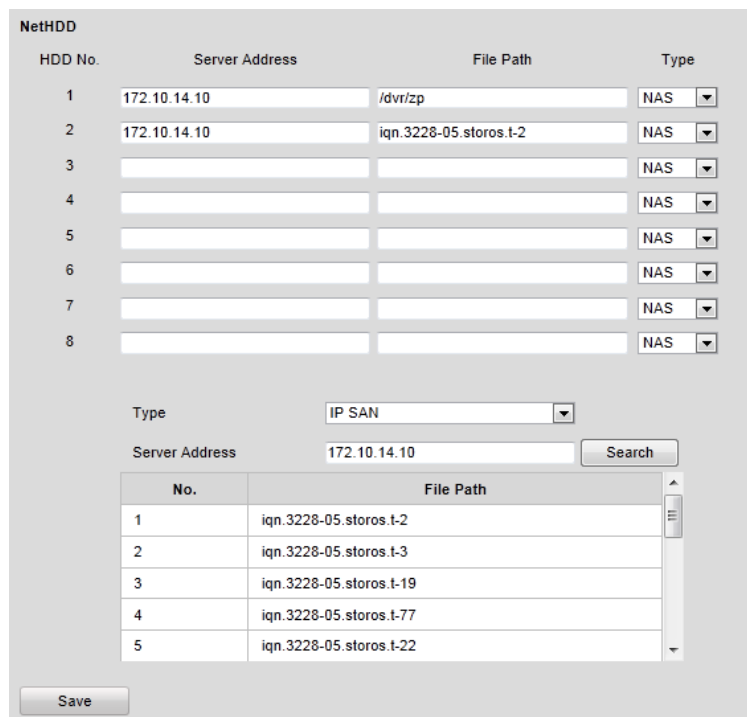

Figure 7.20 Network Disk Settings
3. Select and double click on the searched NAS or IP SAN disk from the list to add it, as shown in Figure 7.20. You can also manually add the NAS or IP SAN by entering the IP address of the server and file path in the text filed.